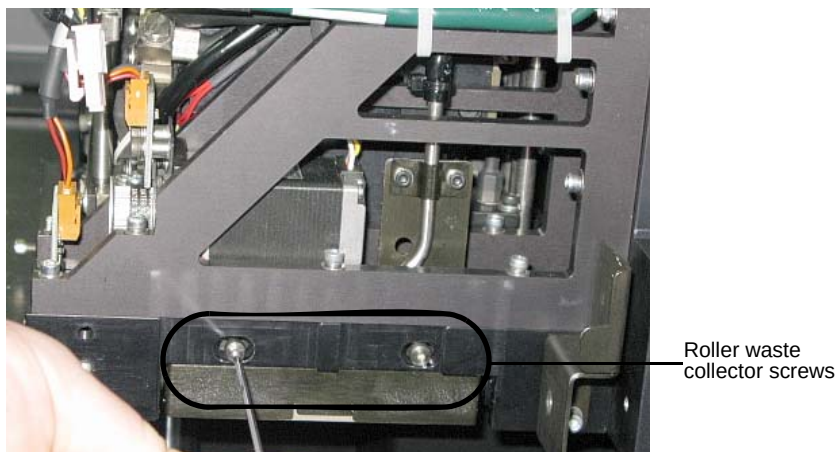

Figure 6-36: Removing the roller waste collector covering
1. Return the roller waste collector to the print block and screw on the covering (see figure 6-36 on page 30).